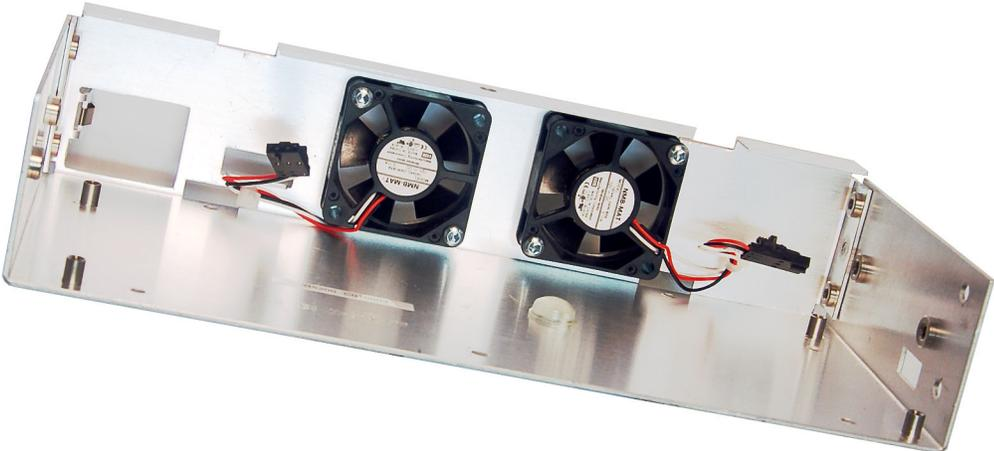

Figure 4: Fan and main chassis
2. Remove the fans from the main chassis. When reassembling, put the fans inside the main chassis with the NMB-MAT labels facing toward the inside of the instrument. Make sure the fans are rotated so that the cables are located up against the main chassis bottom and on the outer corners. (See Figure 4.)